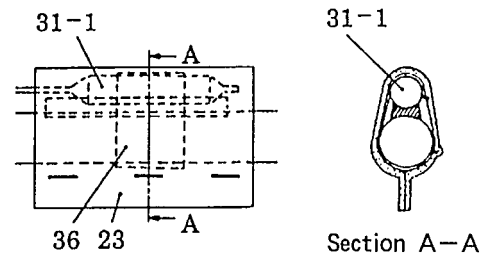

Fig. 16
- 3) Peel off thermal insulation material (23) of the temperature sensing part and separate thermo tube stay (36). (See Fig. 16.)